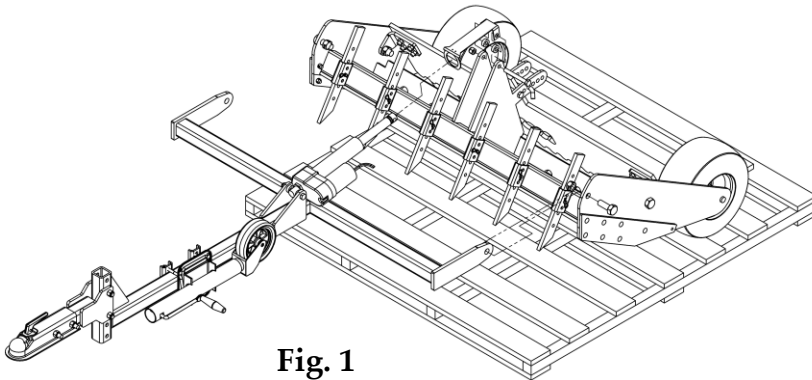
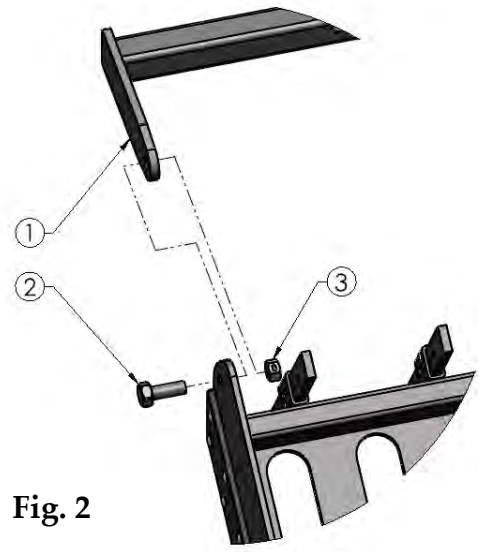

Fig. 1
Fig. 2
Remove main tongue assembly from crate and bolt both frame ends #1 to the inside of main frame rail sides using (2) 11431 bolts #2 and (2) 13997 nuts #3 provided. Tighten hardware snug but do not lock completely, allow frame assemblies to hinge. Fig. 1 & Fig. 2
In fig. 1 the blade is free floating and only restrained by the pin in the last pin position. This allows the blade to swing freely, and the weight of the blade helps level and smooth loose media.
In Fig. 2 the blade is pinned in the upright position and the grader can act as a scraping blade when scarifiers are raised up away from media.